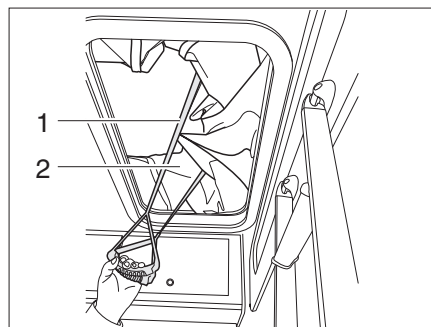

Fig. 53 Closing the pop-up roof
- Close the elastic bands in the pop-up roof so that the cloth bellows (Fig. 53,2) are not clamped in.
- Use the pulling devices (Fig. 53,1) to pull the pop-up roof downwards.